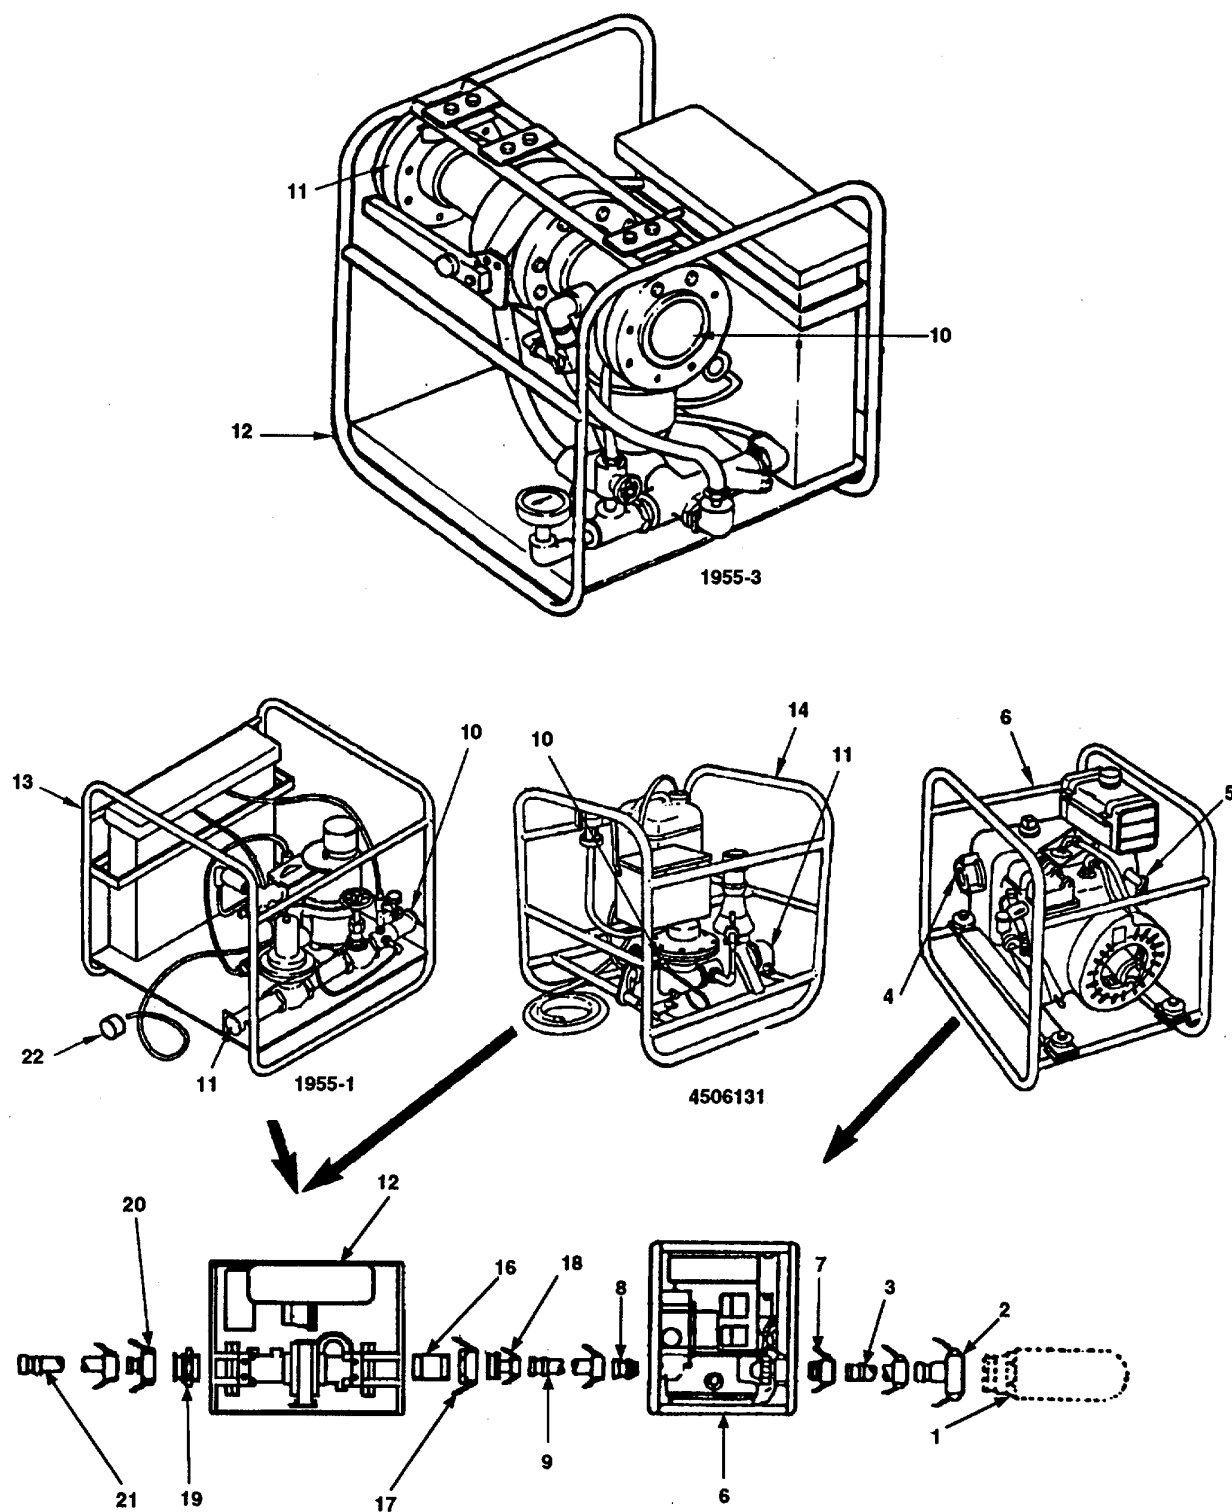
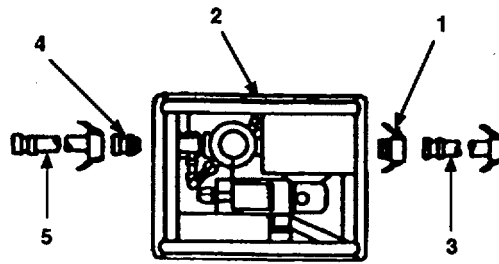

Figure 2-23. Hypochlorination Unit and 125 GPM Pump Installation.
Figure 2-24. Hypochlorination Unit Model 1955-1 and Model A-506131 Installation.
- a. Locate male filler/discharge elbow (Figure 2-23, 1) on storage tank.
- y. Wrap antiseize tape (item 9, appendix E) around threads on female quick disconnect coupling half (Figure 2-24, 1). Screw female quick-disconnect coupling half (1) into inlet port (Figure 2-23, 10) on hypochlorination unit (Figure 2-24, 2).
- z. Push cam arms on female quick-disconnect coupling half (1) forward to open position.
- ab. Wrap antiseize tape (item 9, appendix E) around threads on male quick disconnect coupling half (4). Screw male quick-disconnect coupling half (4) into outlet port (Figure 2-23, 11) on hypochlorination unit (Figure 2-24, 2).
- ac. Push cam arms on discharge hose (5) forward to open position.